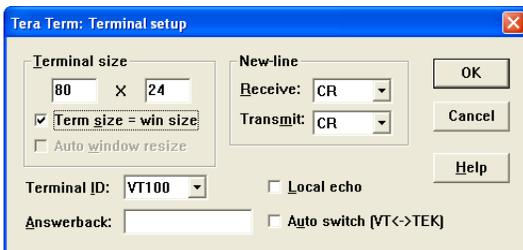
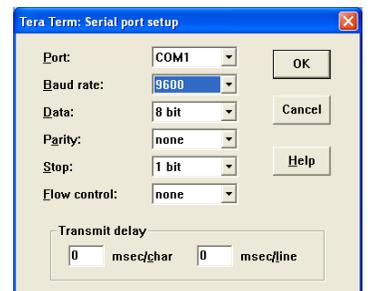
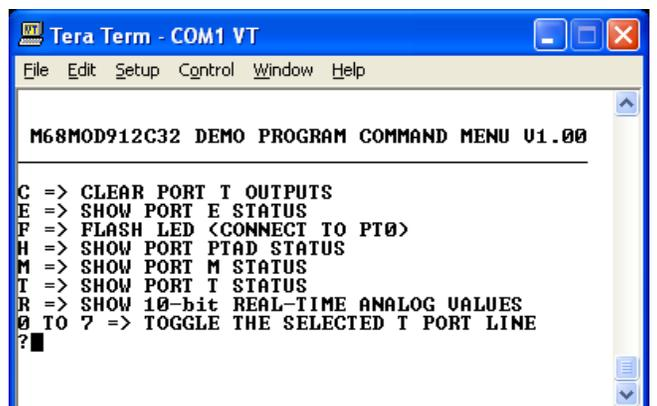

Figure 4
Figure 5
Figure 6
**size = win size**, then click OK (see Figure 4). Again from **Setup**, select **Serial Port** and select the com **Port** you are using, **9600** for **Baud rate**, **Data: 8 bit**, **Parity: none**, **Stop: 1 bit**, **Flow control: none** (see Figure 5). Now, make sure the **Load/Run** switch on NanoCore12DX is in the **RUN** position. You should immediately see a menu displayed in your terminal window (see Figure 6). If you don't see the menu, press the **RESET** button to momentarily bring pin 30 to logic low. If that doesn't work, re-read the above and verify your power supply voltage and connections.